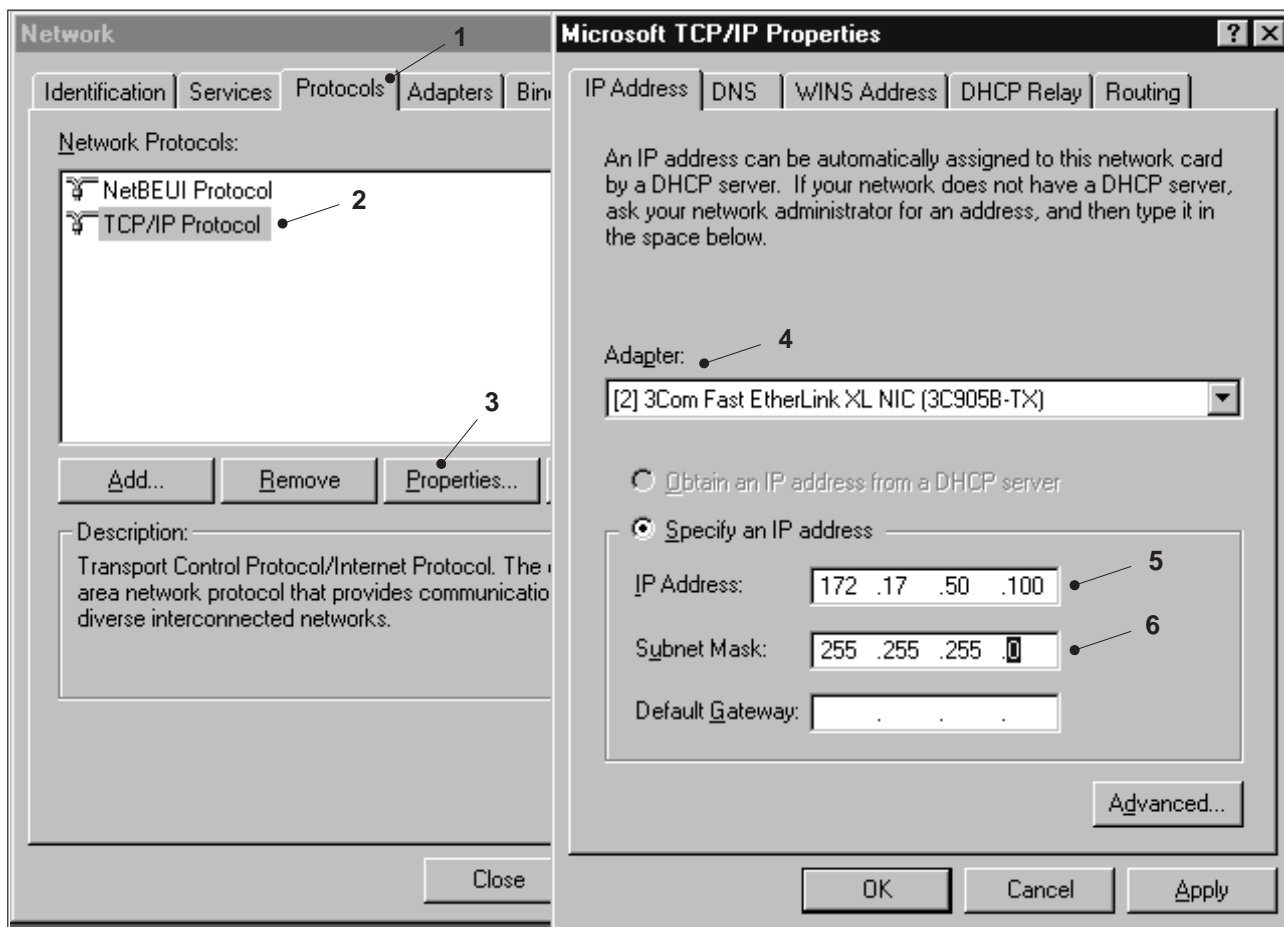

Fig. 8 TCP/IP Properties
- 11 Click **Protocols** (Fig. 8/1) on the registration card.
- 12 Click on the line **TCP/IP Protocol** (Fig. 8/2).
- 13 Click on the **Properties** button (Fig. 8/3).
- 15 Input on the line "IP address" (Fig. 8/5):
Input on the line "Subnet Mask" (Fig. 8/6):